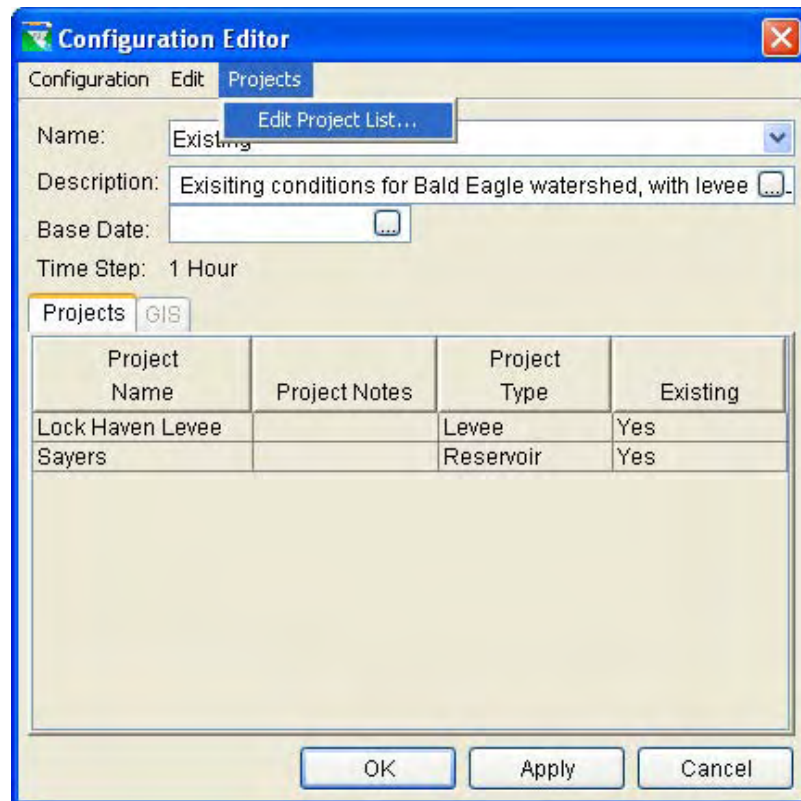

Figure 7.4 Configuration Editor – Edit Project List Option from Projects Menu
- From the **Projects** menu, select **Edit Project List**, as shown in Figure 7.4.